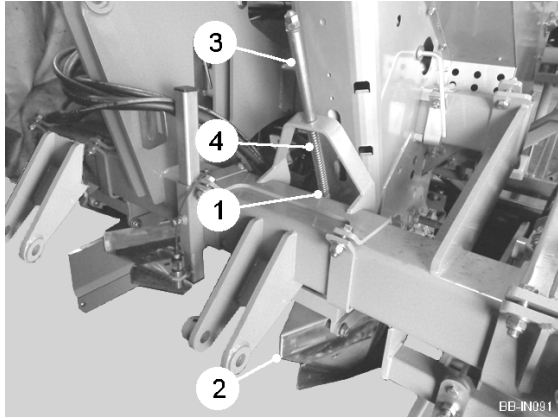

Fig. 10
The bottom springs (item 1, fig. 10) allow the openers (item 2, fig. 10) to ride over obstructions reducing damage to the planter. The top springs/spacers (item 3, fig. 10) carry the weight of the openers and prevent them from 'nose diving' in soft soil. The bottom springs should be set to allow the ground pressure during work to lift the opener into the working position. To adjust, reposition the locknuts (item 4, fig. 10).
The openers (item 2, fig. 10) are adjustable for depth by raising or lowering the land wheels relative to the planter body. On machines with manual depth control, the planting depth is adjusted by a turnbuckle. Ensure both sides are adjusted equally.
3. Use the UP / DOWN arrows to manually set the openers (item 2, fig. 10) at the required planting depth.